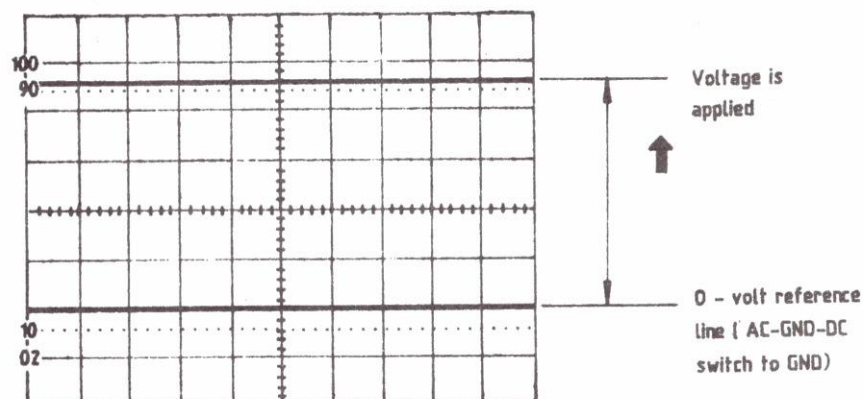

Fig 6-2. DC Voltage measurement
1. Set the AC-GND-DC switch to GND. The vertical position of the trace in this case is used as 0-volt reference line as shown in Fig. 6-2. Adjust the vertical position control in order to place the trace exactly on a horizontal graticule, which facilitates the reading of signal voltage.